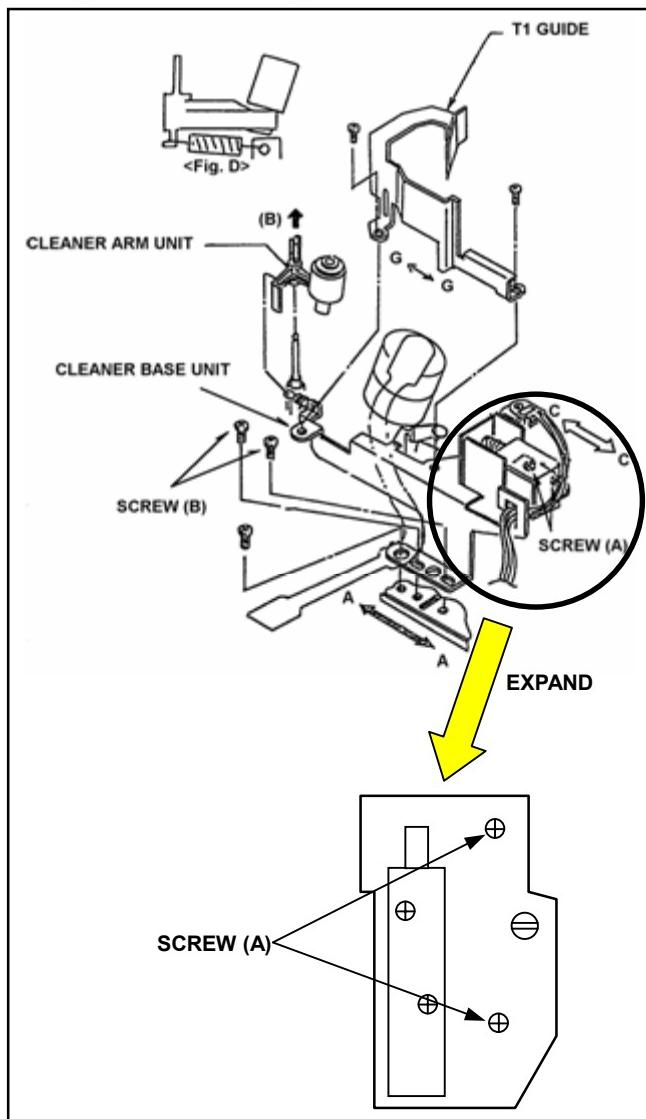

Figure 5-22-2
2. If not, loosen the 2 screws (B) as shown in figure 5-22-2 and adjust the position of Cleaner Base Plate by moving arrow direction ( $A \leftrightarrow A$ ) using the Eccentric driver so that the clearance (A) is within the specification. And tighten the 2 screws (B).